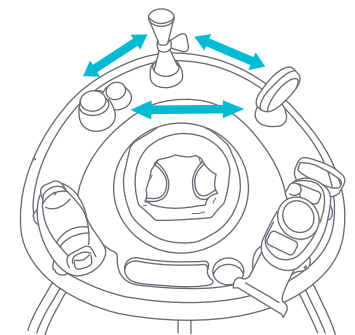

Fig. 6a
- 6 • Place toys in this order as shown. Toys must be properly attached before use (Fig. 6a). **NOTE: ONLY the gear toy, tumble beads toy, and press 'n pop toy are interchangeable.**